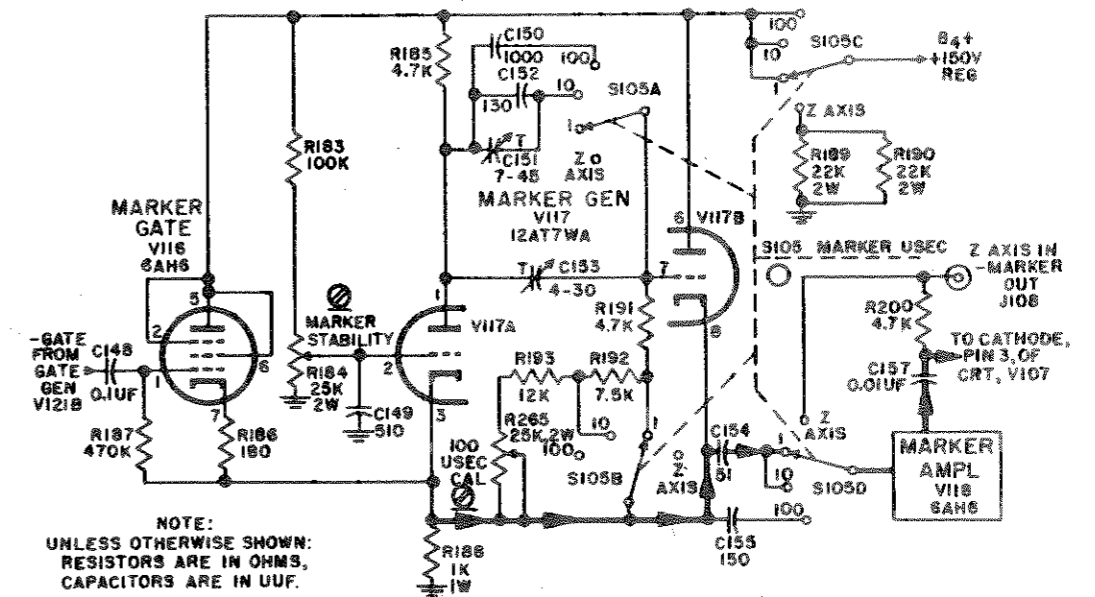

Figure 2-16. Marker Generator, Simplified Schematic Diagram.
(2) MARKER GENERATOR (See figure 2-16) – The Marker Generator is basically a gated multivibrator whose output is used to supply markers of known time intervals to the Z Axis of the crt. The basic circuit uses V116, Marker Gate, type JAN6AH6; and V117, Marker Generator, a dual-triode type JAN12AT7WA. This cir-